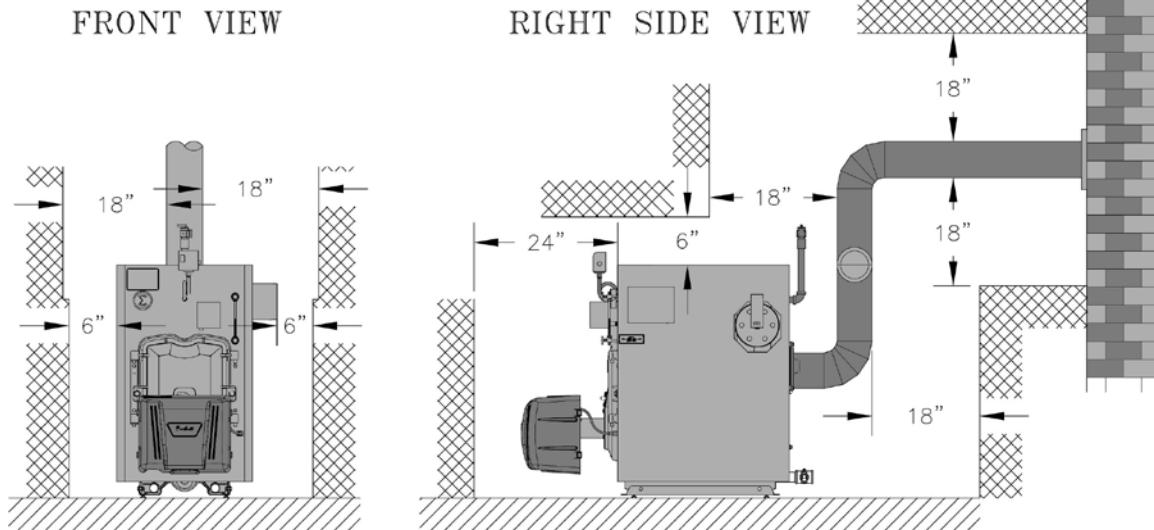

Figure 2: Minimum Installation Clearances To Combustible Materials (Inches)
- For minimum clearances to combustible materials. See Figure 2.